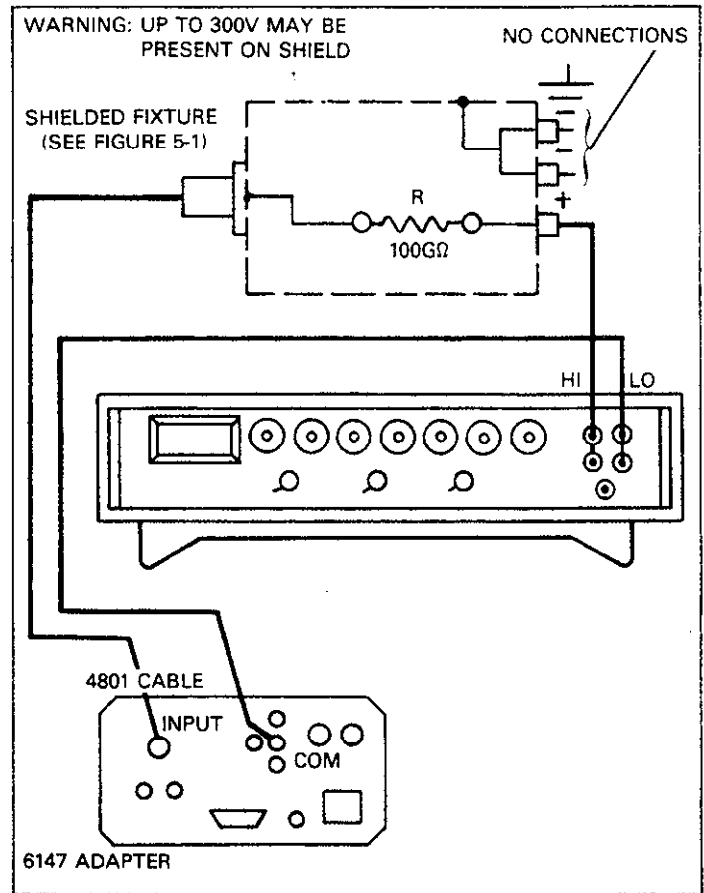

Figure 5-8. Input Impedance Verification
- Connect the DC calibrator to the Model 617 (use the configuration in Figure 5-8, but with a short in place of the resistor). Set the calibrator output to 19.000V. Disable zero check and note the reading.
- Enable zero check and place the 100GΩ resistor in the shielded test fixture as shown in Figure 5-8.